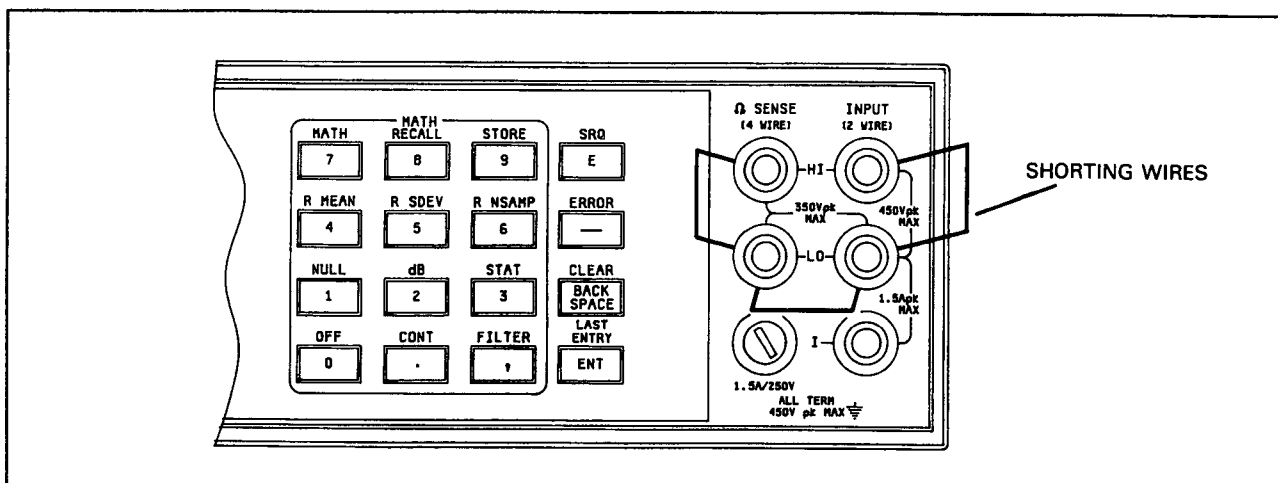

**Figure 5-1. Input Connections for Four-Wire Ohms Offset Calibration**
**5-32. Equipment Required.** A low thermal short (copper wire) is required for this procedure. (Refer to Figure 5-1).
b. Connect the short across the Front Panel **HI** and **LO** Input Terminals and the  $\Omega$  Sense **HI** and **LO** terminals as shown in Figure 5-1.